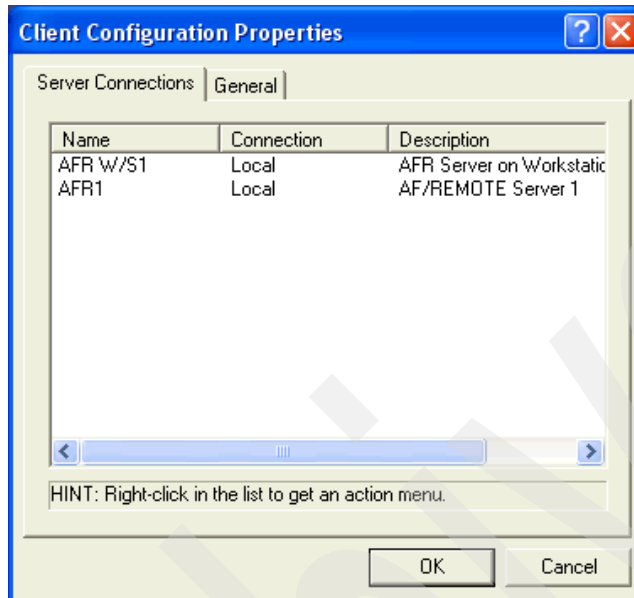

Figure F-8 Client configuration properties - part 2
5. The Client Configuration Properties panel is displayed, listing the new and default server connection names (Figure F-8). On the Server Connections tab, right-click the default (**AFR1**) server connection name and select **Remove**. Click **OK**.